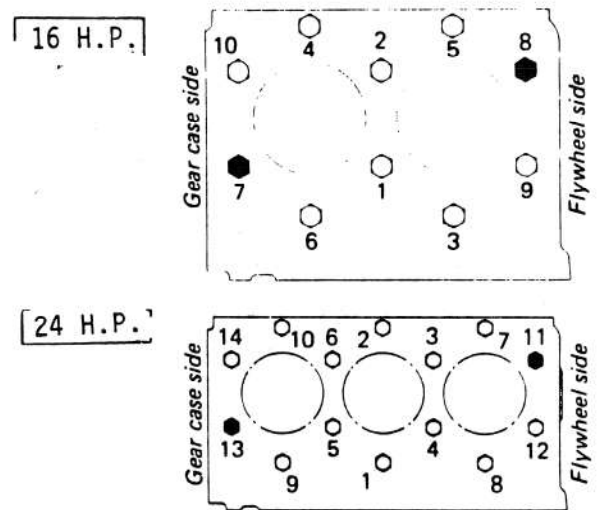

Fig. 23. Tightening of Cylinder Head Bolts
■ **Tightening cylinder head capscrews (Fig. 23)**
- (1) The tightening torque of the cylinder head capscrews is 54 to 58 ft lbs. (7.5 to 8.0 kg-m). Numbers 7, 8 and 11, 13 (◆) in the diagram are studs. The nuts on these studs should also be tightened to this torque.
- (2) All the capscrews must be tightened uniformly. To do this, tighten all the capscrews in the order indicated on the diagram until they are just snug. Then tighten each one 1 (one) turn at a time in this same sequence each time until all have been tightened to the required torque.
- (3) The cylinder head capscrews should be re-tightened if the engine has not been used for a long time. The valve lash should also be adjusted each time the cylinder head capscrews are retorqued. If the cylinder head gasket has been replaced, run the engine for about 30 minutes and re-tighten the cylinder head capscrews as described above.